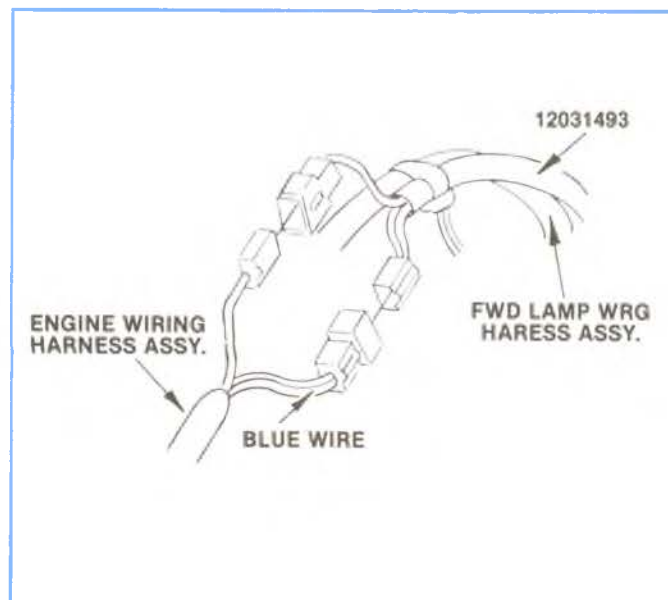

Figure 6-25, Harness Connection.
6. Disconnect the 4-way engine harness connector from its mate on the glow plug relay extension harness 12031493 (Figure 6-25).